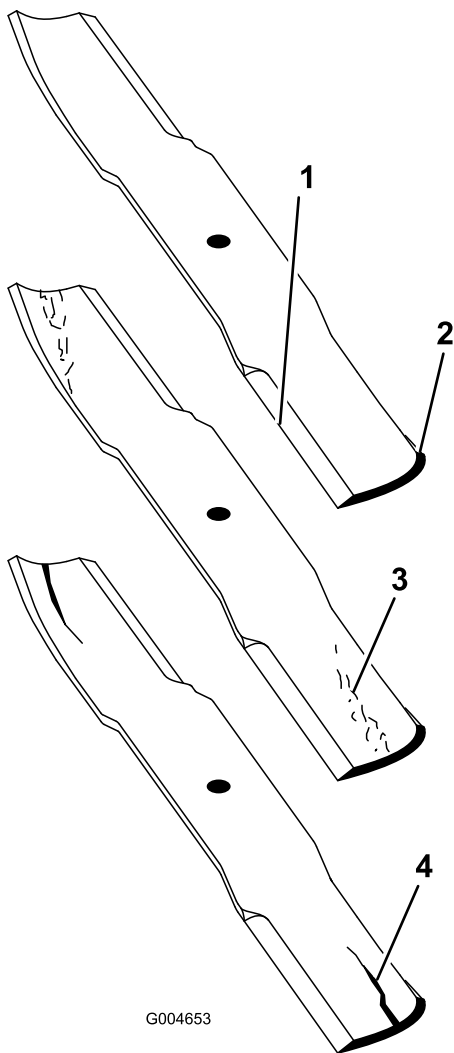

Figure 130
- Examine the cutting ends of the blade carefully, especially where the flat and curved parts of the blade meet (Figure 130).
Note: Because sand and abrasive material can wear away the metal that connects the flat and curved parts of the blade, check the blade before using the mower. If wear is noticed (Figure 130), replace the blade.